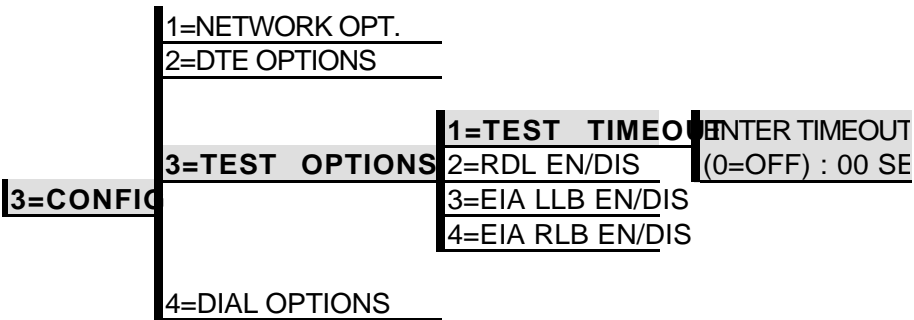

Figure 7-1
The TEST TIMEOUT option sets the length of time a DSU III S2W remains in a test mode before automatically returning to the data mode. Enter the timeout from 0 to 255 seconds. The factory default setting is off (0). Figure 7-1 shows the menu path used to access TEST TIMEOUT.